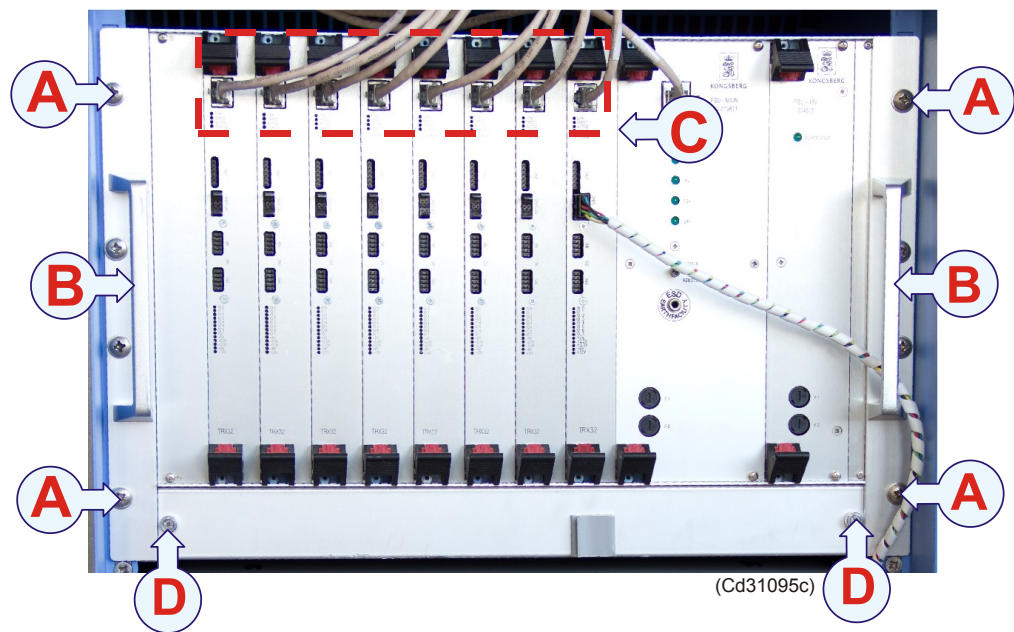

Figure 23 Retrofit Transceiver unit PCB rack
- 2 Remove the two screws (D) in the front.
- See Figure 23 on page 58